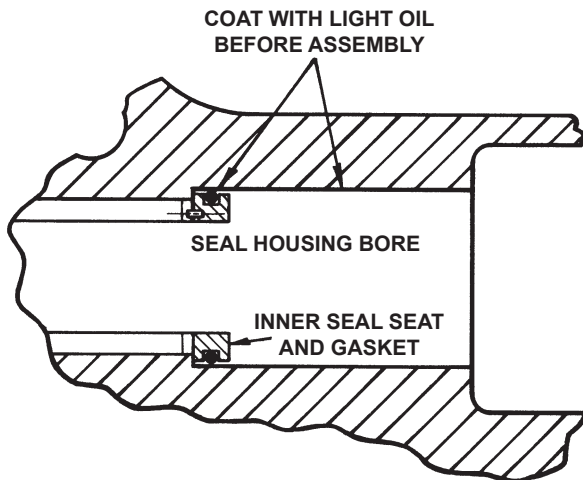
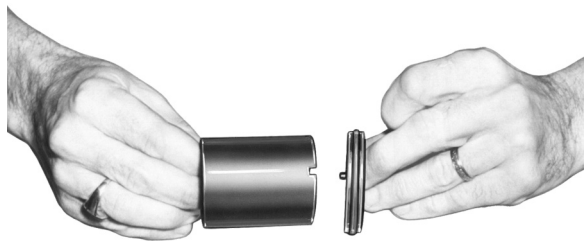

FIGURE 12
FIGURE 13
3. Coat the outside of the inner seal seat and O-ring gasket and also the inside diameter of the seal housing bore with light Refrigeration Oil (not grease), **see figure 12**. Press the inner seal seat with O-ring gasket into place in the seal housing bore with your fingers or by putting a piece of cardboard over the face of the seal seat and pressing with a block of wood or squared off piece of pipe. Remove the cardboard. **Figure 13** shows how the inner seal seat pin fits into either of the slots in the end of the bracket bushing. Be sure the pin engages one of these slots in the bushing when you have finished pushing the seal seat into the seal housing bore. Check by looking through the bracket bushing from the casing end.